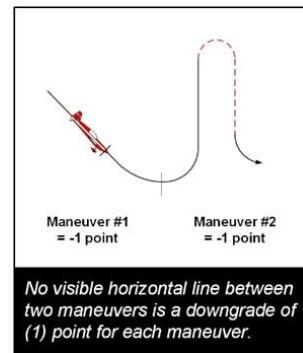

Figure 11
Therefore, leaving out the line between two figures will downgrade the preceding figure by one (1) point and the following figure also by one (1) point (Fig. 11).